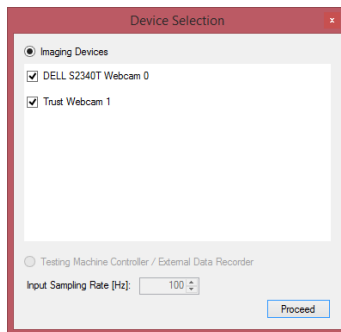

Figure 3: Device Selection dialog.
- **New Project** – Creates a new test project. If more than one camera is connected or a testing machine is present, the Device Selection dialog seen in Figure 3 appears. There is possible to choose either from **Image Devices** or **Testing Machine Controller / External Data Recorder**. The selection of cameras within this dialog denotes which are to be used in the new project and is confirmed with the **Proceed** button. **Input Sampling Rate** determines sampling frequency of